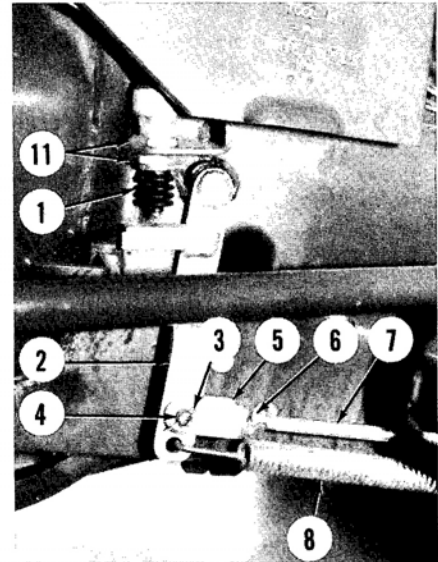

Fig. 39—View of clutch linkage used on Models B6100HST-D, B6100HST-E, B7100HST-D and B7100HST-E. Other models are similar.
51. **ADJUSTMENT.** Clutch pedal free play should be 2-4 mm (5/64-5/32 inch). Clutch pedal travel should not exceed 8 mm (5/16-inch). Safety switch (1—Fig. 39) should not be engaged until clutch pedal is depressed past the recommended free play setting, placing clutch in disengaged position.
Safety switch (1—Fig. 39) is adjusted on some models by loosening locknuts (11), then screwing switch in or out of mounting bracket. On other models, an adjusting screw positioned in lever arm is used.